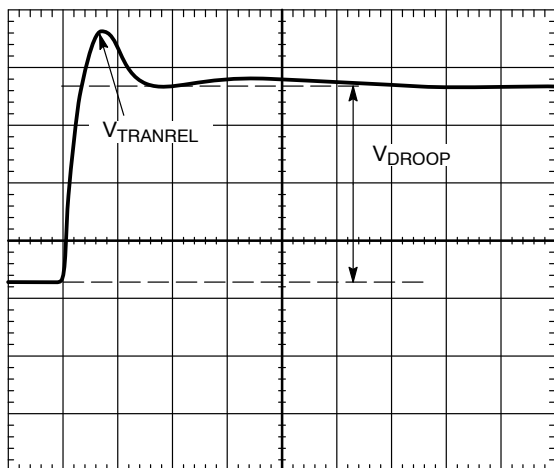

Figure 15. Transient Setting Waveform
20. For load release (see Figure 15), if V_{TRANREL} is larger than the allowed overshoot, there is not enough output capacitance is needed, or the inductor values need to be made smaller. When changing inductors, start the design again using a spreadsheet and this tuning procedure.